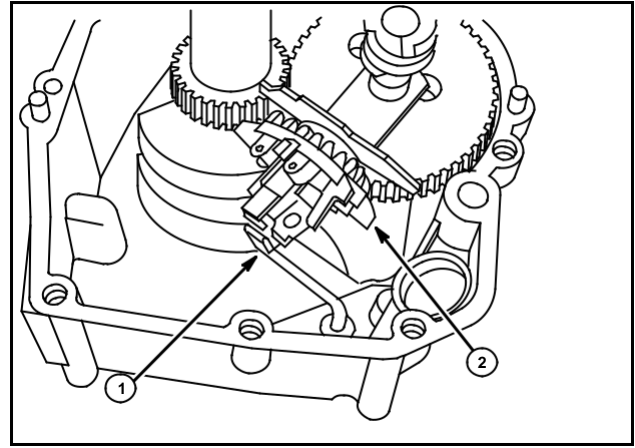

Fig. 49
4. Turn crank until paddle (1) contacts governor cup on oil slinger (2), Fig. 49.